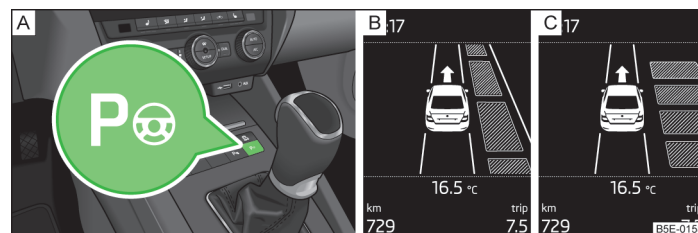

Fig. 131 System button / display
When the system is activated, the warning light lights up **P** » Fig. 131 on page 143 - **A**.
- Press the symbol button **once** » Fig. 131.
The display shows » Fig. 131 - [B].
- Press the symbol button **twice** » Fig. 131.
The display shows the following » Fig. 131 - [C].
- Press the symbol button  » Fig. 131 on page 143.